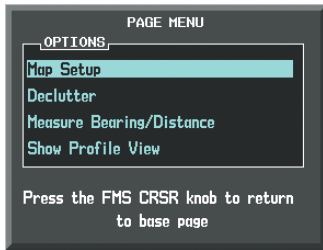

Figure 6-152 Navigation Map Page Menu
- 3) With 'Map Setup' highlighted, press the **ENT** Key (Figure 6-152).